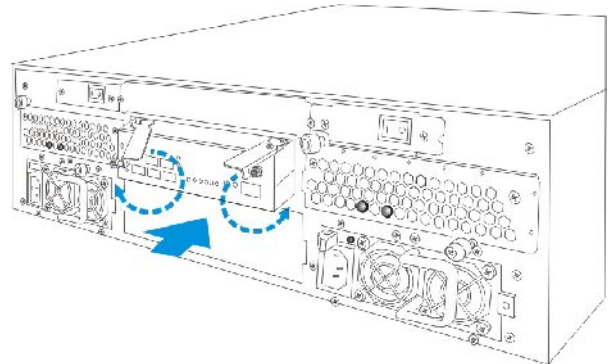

Figure 1: Inserting the Controller Module
Step 2: Hold the RAID controller module by its edges and insert it into the controller bay. Push the unit in until it reaches the end of the controller bay. The guide rails on the sides of the controller bay should make the plug-in process an effortless task. You should be able to feel the contact resistance of the docking connector when pushing the controller inwards. (See *Figure 1*)